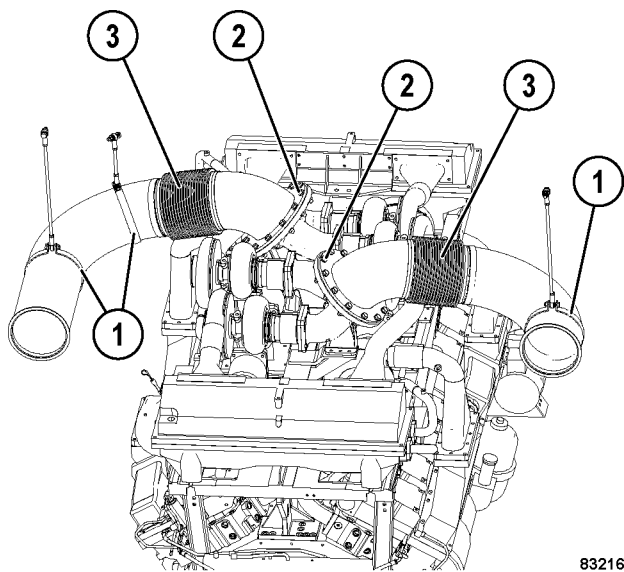
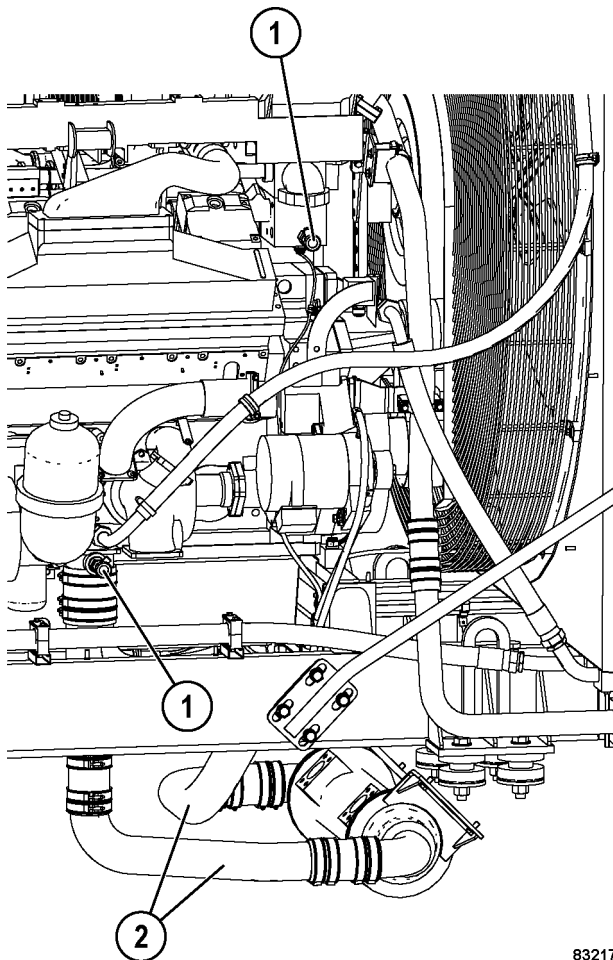

FIGURE 2-5. ENGINE EXHAUST PIPING
FIGURE 2-6. WATER SHUTOFF VALVES & HEAT EXCHANGER PIPING
13. Remove clamps (1, Figure 2-5) from the hangers.
14. Remove mounting hardware (2) that retains exhaust tubes (3) to the turbocharger outlet flanges. Remove the exhaust tubes. Cover the turbocharger outlet openings on the engine.
16. Close cab heater water shutoff valves (1, Figure 2-6), disconnect the water lines and drain the water from the heater core. Secure the water lines away from engine compartment to prevent interference with power module removal.
18. Disconnect and remove heat exchanger piping (2, Figure 2-6) from the engine water pump and the radiator.
5. Install exhaust tubes (3, Figure 2-5).
6. Connect the cab heater inlet and outlet hoses, then open both water shutoff valves (1, Figure 2-6).
7. Install heat exchanger piping (2) to the heat exchanger, engine water pump and radiator.